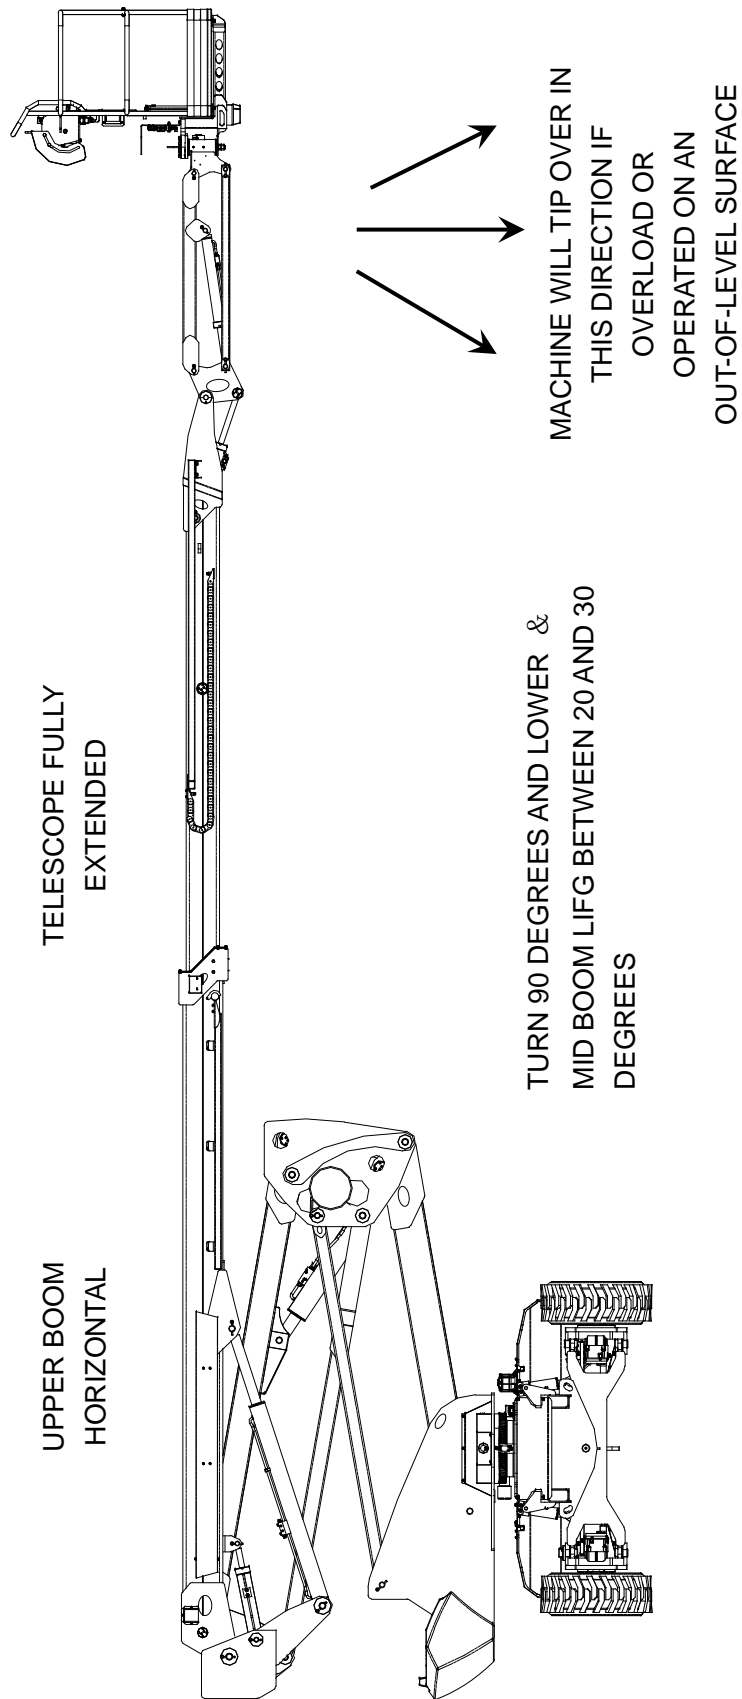
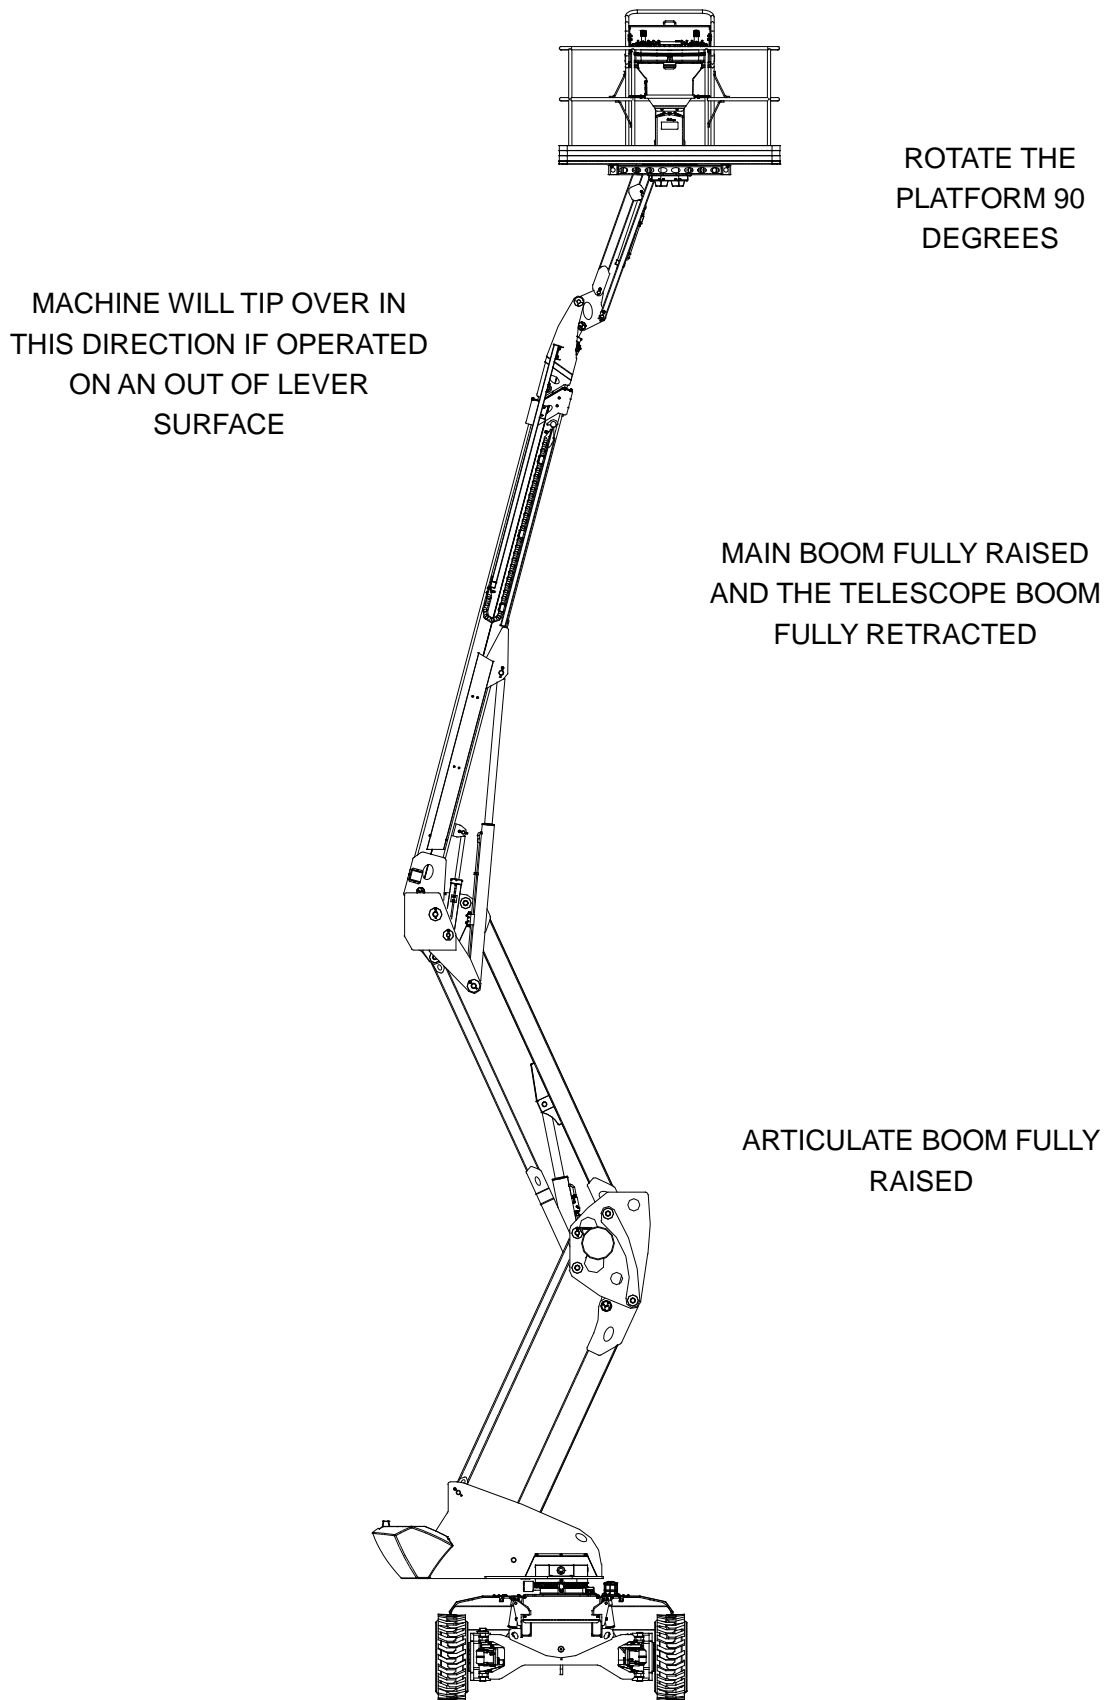

Figure 5-1 Position of Least Forward Stability
Figure 5-2 Position of Least Backward Stability
Machine stability is based on two (2) conditions which are called FORWARD and BACKWARD stability. The machine's position of least FORWARD stability is shown in (See Figure5-1.), and its position of least BACKWARD stability is shown in (See Figure 5-2.)